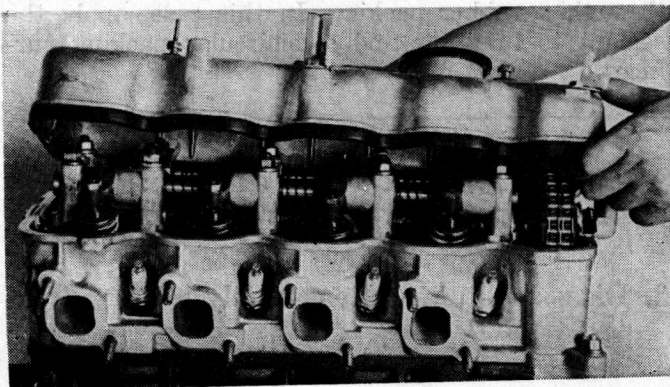

Fig. 32 Removing the Rocker Cover
- (1) Remove the rocker arm cover. (Fig. 32)